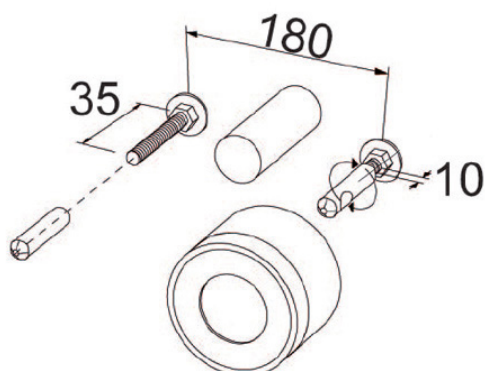

Fig 1
1. Screw the fixing bolts onto the protruding all thread ensuring that the cut out is pointing outward (fig 1). Protruding all thread will need to be cut to size based on the wall thickness.